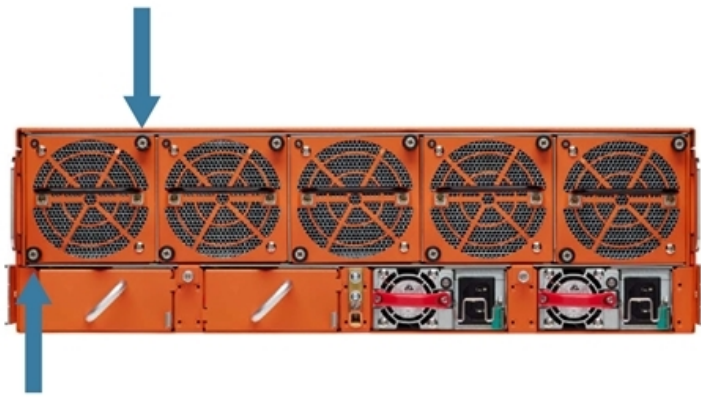

Figure 7: Fan Module Screw Location on GigaVUE-HC3 Rear
1. Locate the two thumb screws on the fan module as shown in Figure 7: Fan Module Screw Location on GigaVUE-HC3 Rear.
5. Tighten the thumb screws on each fan module, then use a Phillips screwdriver to tighten the screws. Refer to Figure 7: Fan Module Screw Location on GigaVUE-HC3 Rear.